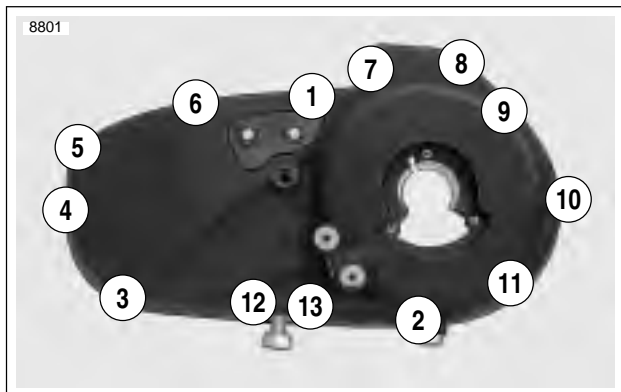

Figure 6-6. Primary Cover Tightening Sequence
4. See Figure 6-6. Tighten bolts to 80-110 **in-lbs** (9-12.4 Nm) in sequence shown.